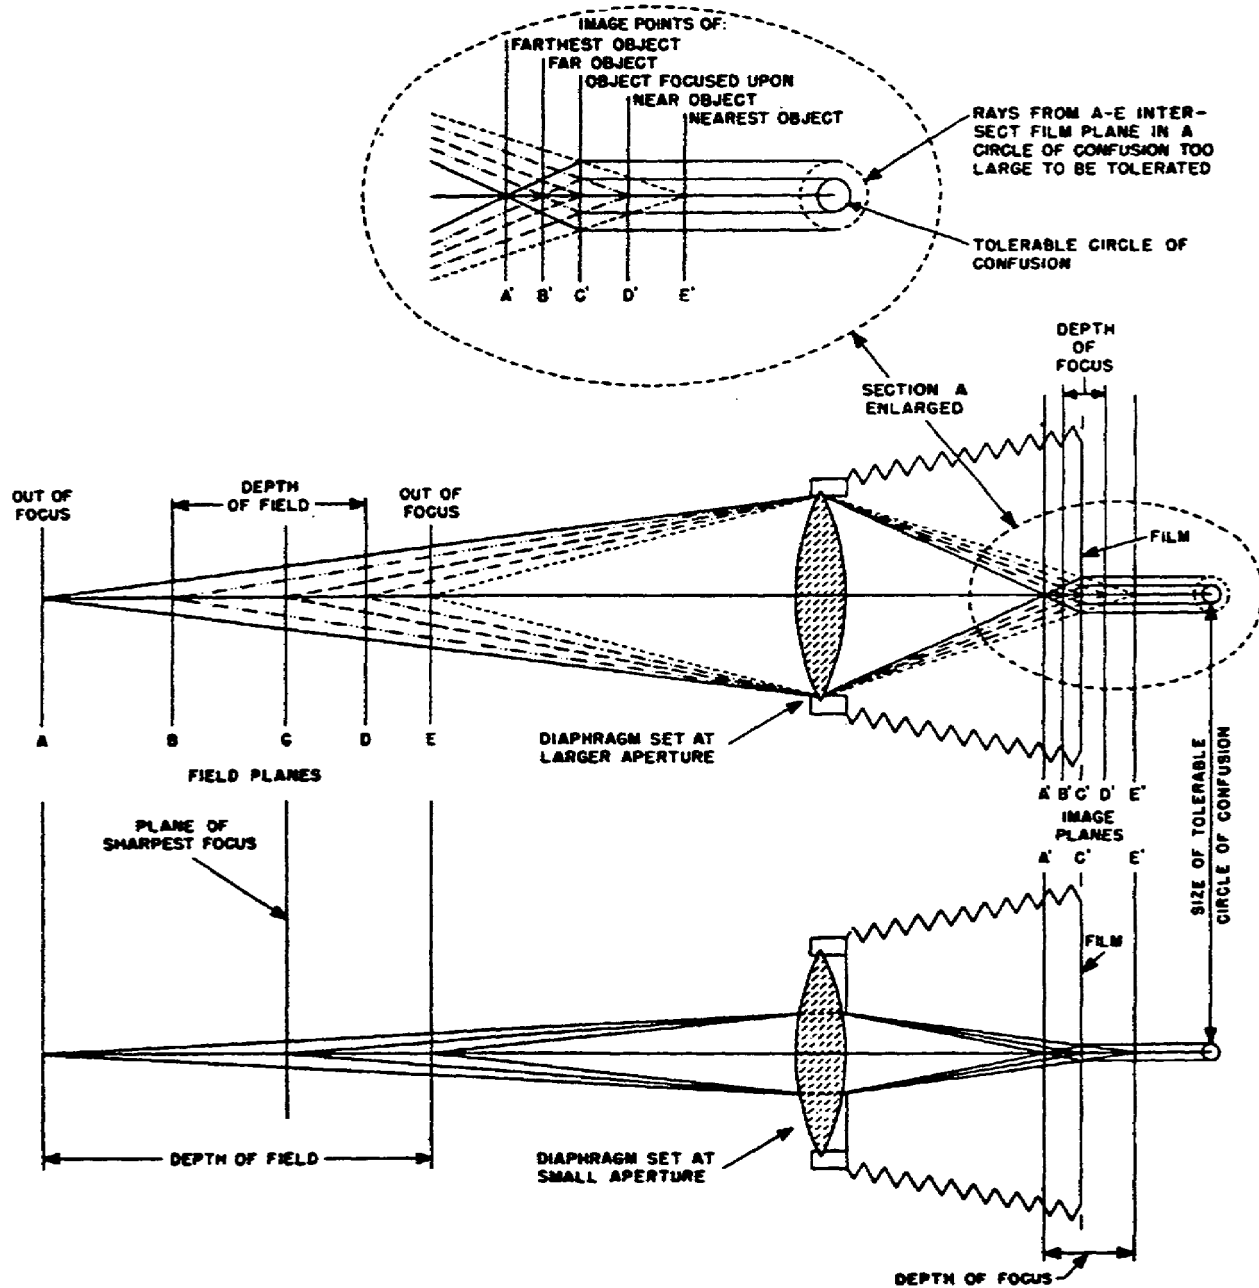

Figure 2-24. Effects of diaphragm opening on depth of field.
c. Depth of field also increases as the lens opening or aperture is decreased, because the size of each cone of light decreases in proportion to the aperture. The top and center sections of figure 2-24 show that a lens with a large aperture reproduces sharply only those objects located between B and D. In the lower sections, the sharpness range of the depth of field is increased to the distance of A to E, because the lens diaphragm has been closed down to a smaller aperture.